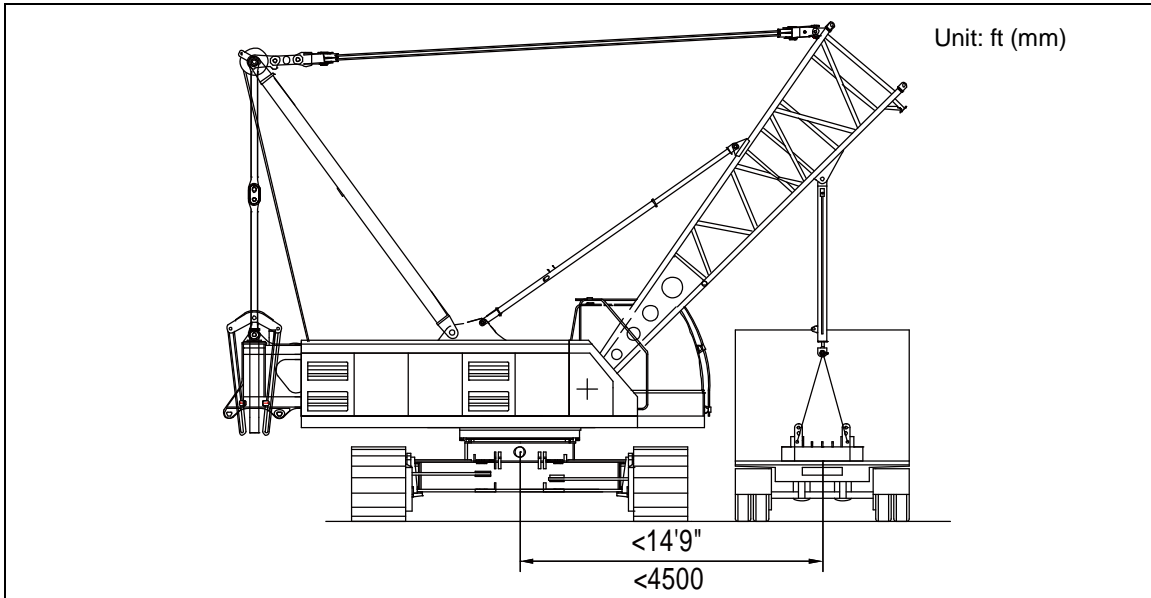

Figure 5-30 Unloading of rear counterweight
- Lift the counterweight from the vehicle via mounting cylinder. (see the figure 5-30)